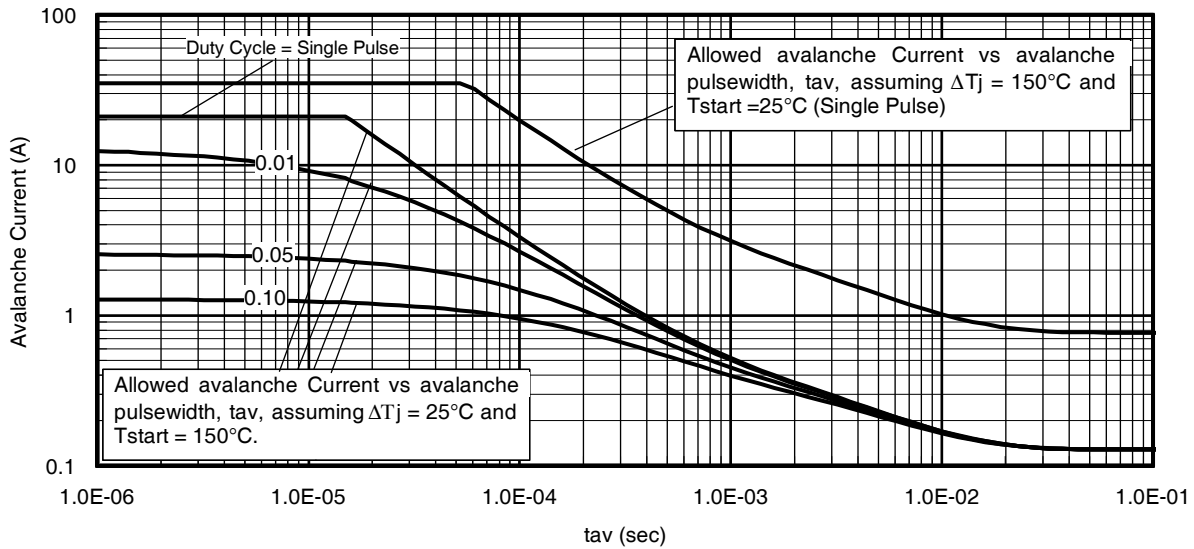

Fig 15. Typical Avalanche Current Vs. Pulsewidth
7. ΔT = Allowable rise in junction temperature, not to exceed T_{jmax} (assumed as 25°C in Figure 15, 16).